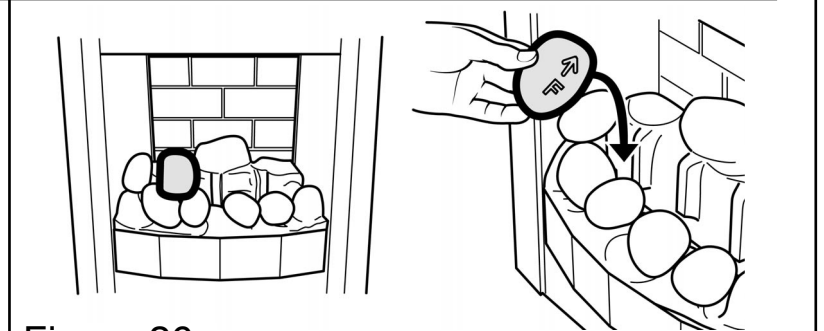

Figure 26.
9. Hold pebble 'F' upright with the arrow pointing to the top. Place pebble 'F' between the front and rear base pebbles. It should rest on top of pebble 'A' & 'B'. (See figure 26).